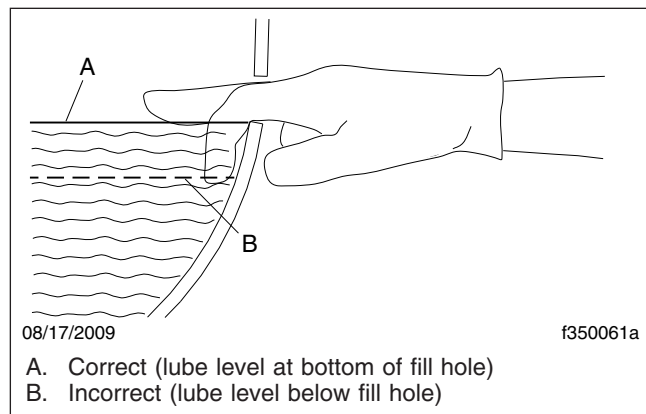

Fig. 2, Axle Lubricant Level Inspection
- 5.1 Fill the axle through the oil fill hole. Lubricant should be level with the bottom of the oil fill hole. To check fluid level, see **Fig. 2**.
- 6.1 With the vehicle on a level surface, fill the axle through the oil fill hole. Lubricant should be level with the bottom of the oil fill hole. To check fluid level, see Fig. 2.